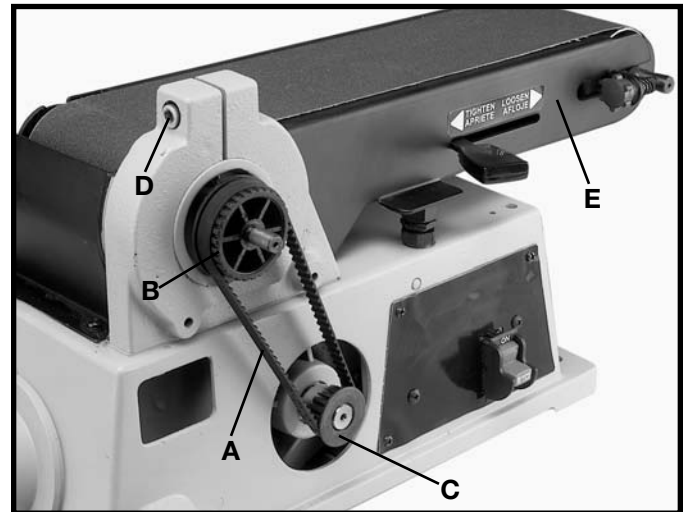
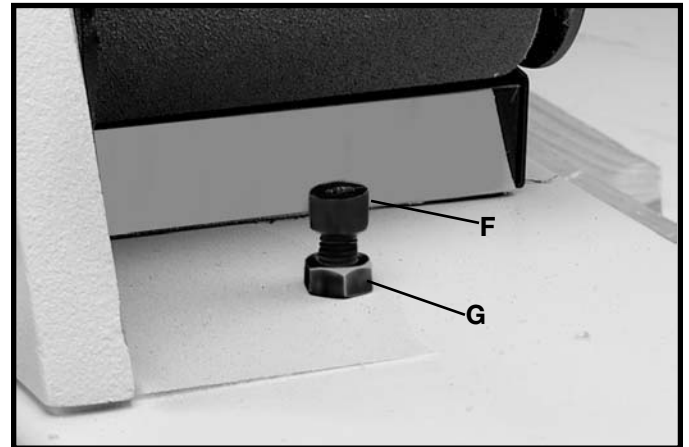

Fig. 2
Fig. 3
Your sander was shipped from the factory with the drive belt (A) Fig. 2, assembled to both pulleys (B) and (C). Before assembling the machine, check and adjust the belt tension as follows:
1. Loosen screw (D) Fig. 2, with the 6mm hex wrench, and move sanding arm (E) to the vertical position to expose belt tensioning screw (F) Fig. 3, and locknut (G).